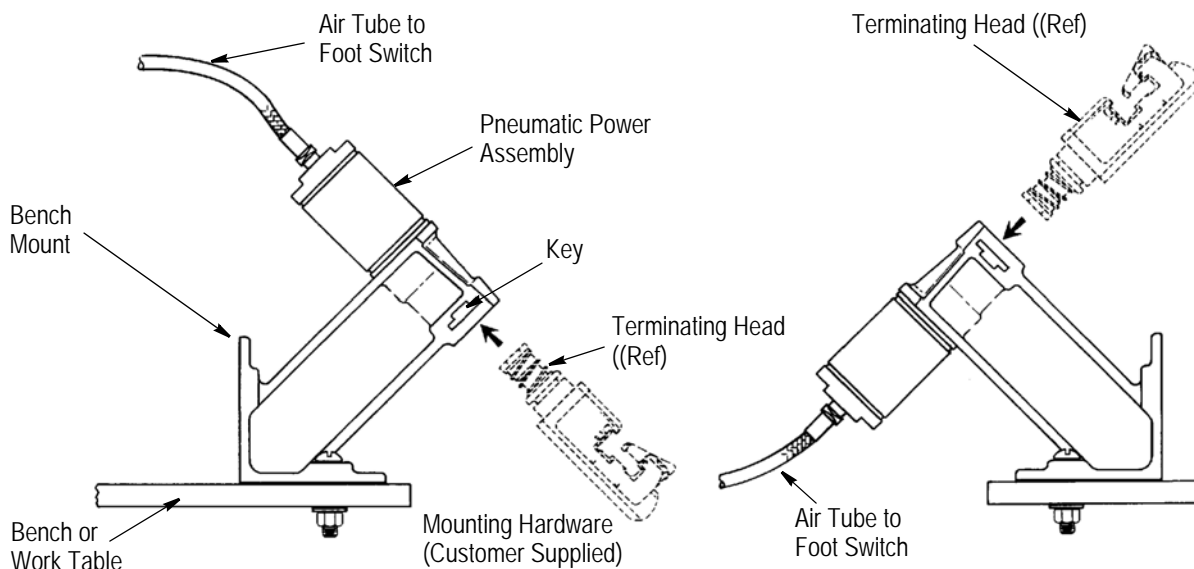
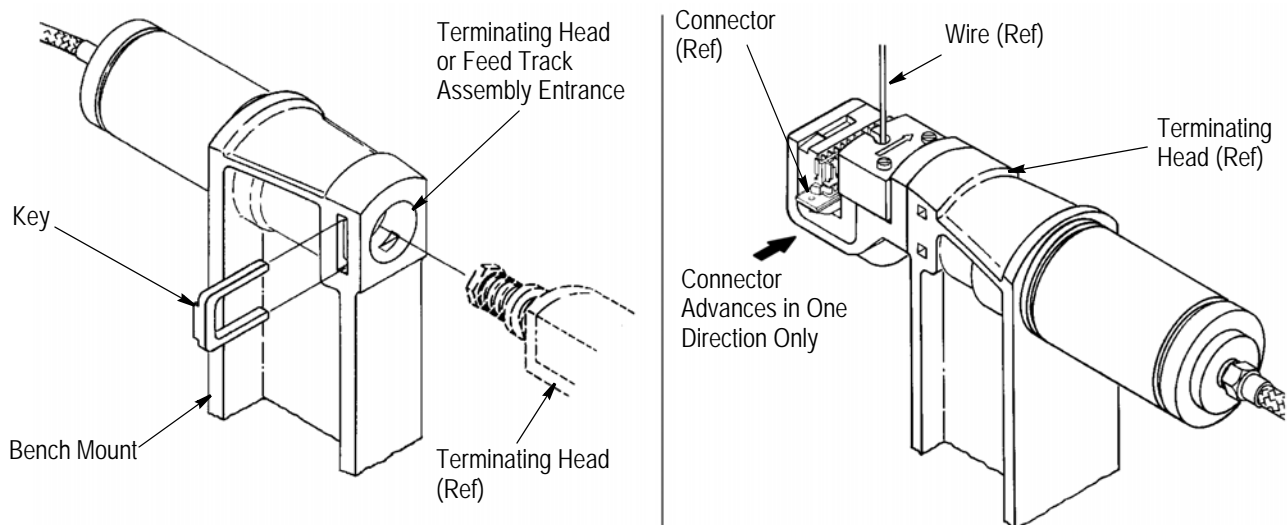

Figure 2
Figure 4
### 3. DESCRIPTION (see Figure 2)
The bench mount is designed to be mounted in either of the two positions shown in Figure 2. Orientation of the bench mount depends on operator preference and the desired eject direction of terminated connector (refer to Figure 4). Install the bench mount as follows:
3. Insert the terminating head or feed track assembly into the head entrance of the power assembly body until it bottoms. See Figure 4.
from air supply, remove the key, and pull the terminating head or feed track assembly out of the power assembly. Refer to Figure 4.